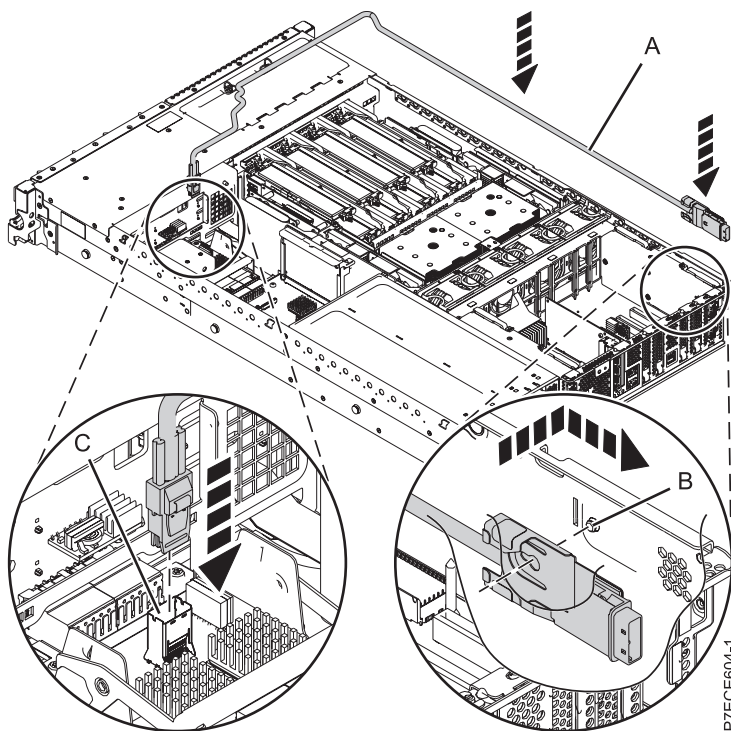

Figure 25. Replacing the SAS cable
3. Connect the mini-SAS connector of the SAS cable to the internal SAS connection port (C) on the storage interposer until it snaps in place. See Figure 25.
4. Route the cable (A) in front of the memory riser cage and along the channel in the side wall until the SAS port connector is near the opening on the rear of the chassis.
5. Align and guide the slot in the bracket of the SAS port connector (B) over the guide pin in the chassis. Then slide the SAS port connector into the opening on the rear of the chassis until the tab on the bracket snaps in place.